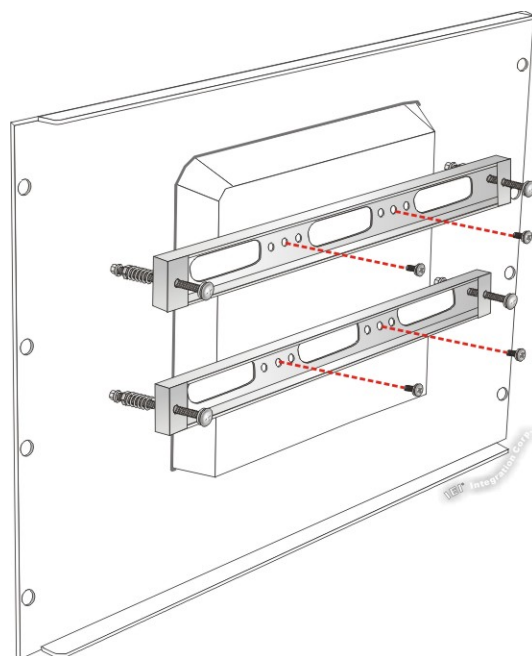

Figure 3-33: Securing Rack Mounting Brackets
- Step 5:** Secure the two rack mounting brackets to the rear of the panel PC by inserting the four retention screws into the VESA mounting holes and tightening them (Figure 3-33).